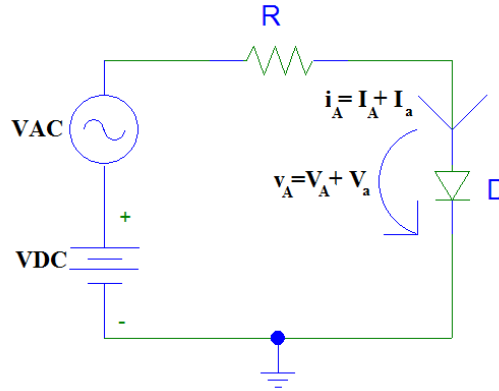

Fig.4.The diode biased from DC and AC sources
The operating mode of the diode may involve the use of this device powered by both direct current (DC) and alternating current (AC) (Fig.4).